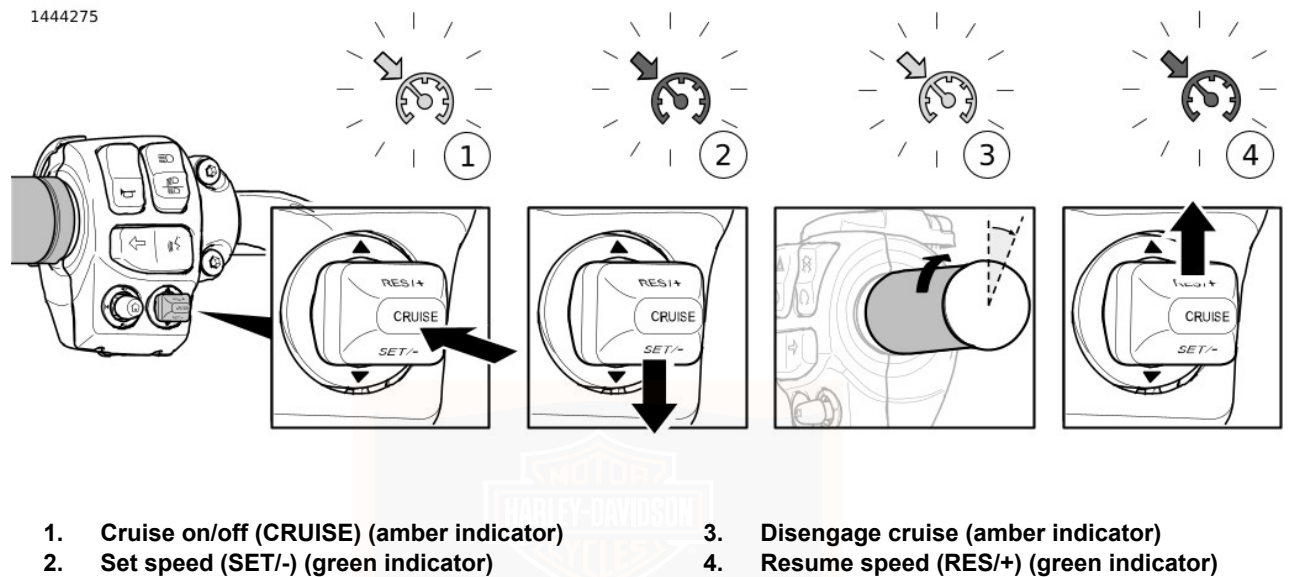

Figure 34. Cruise Control (typical)
See Figure 34. Press the CRUISE switch to turn on cruise (1). When on, the cruise icon in the speedometer face glows amber.
See Figure 34. When the motorcycle reaches your intended speed, press the SET/- switch down to set the cruise speed (2). The amber cruise icon changes to green.
See Figure 34. To drop out of cruise speed, roll the throttle closed through the roll-off switch (3).
See Figure 34. If cruise has been disengaged yet the cruise indicator is amber, pressing the RES/+ switch up resumes cruise (4). The icon glows green. The motorcycle automatically resumes cruise at the set speed.